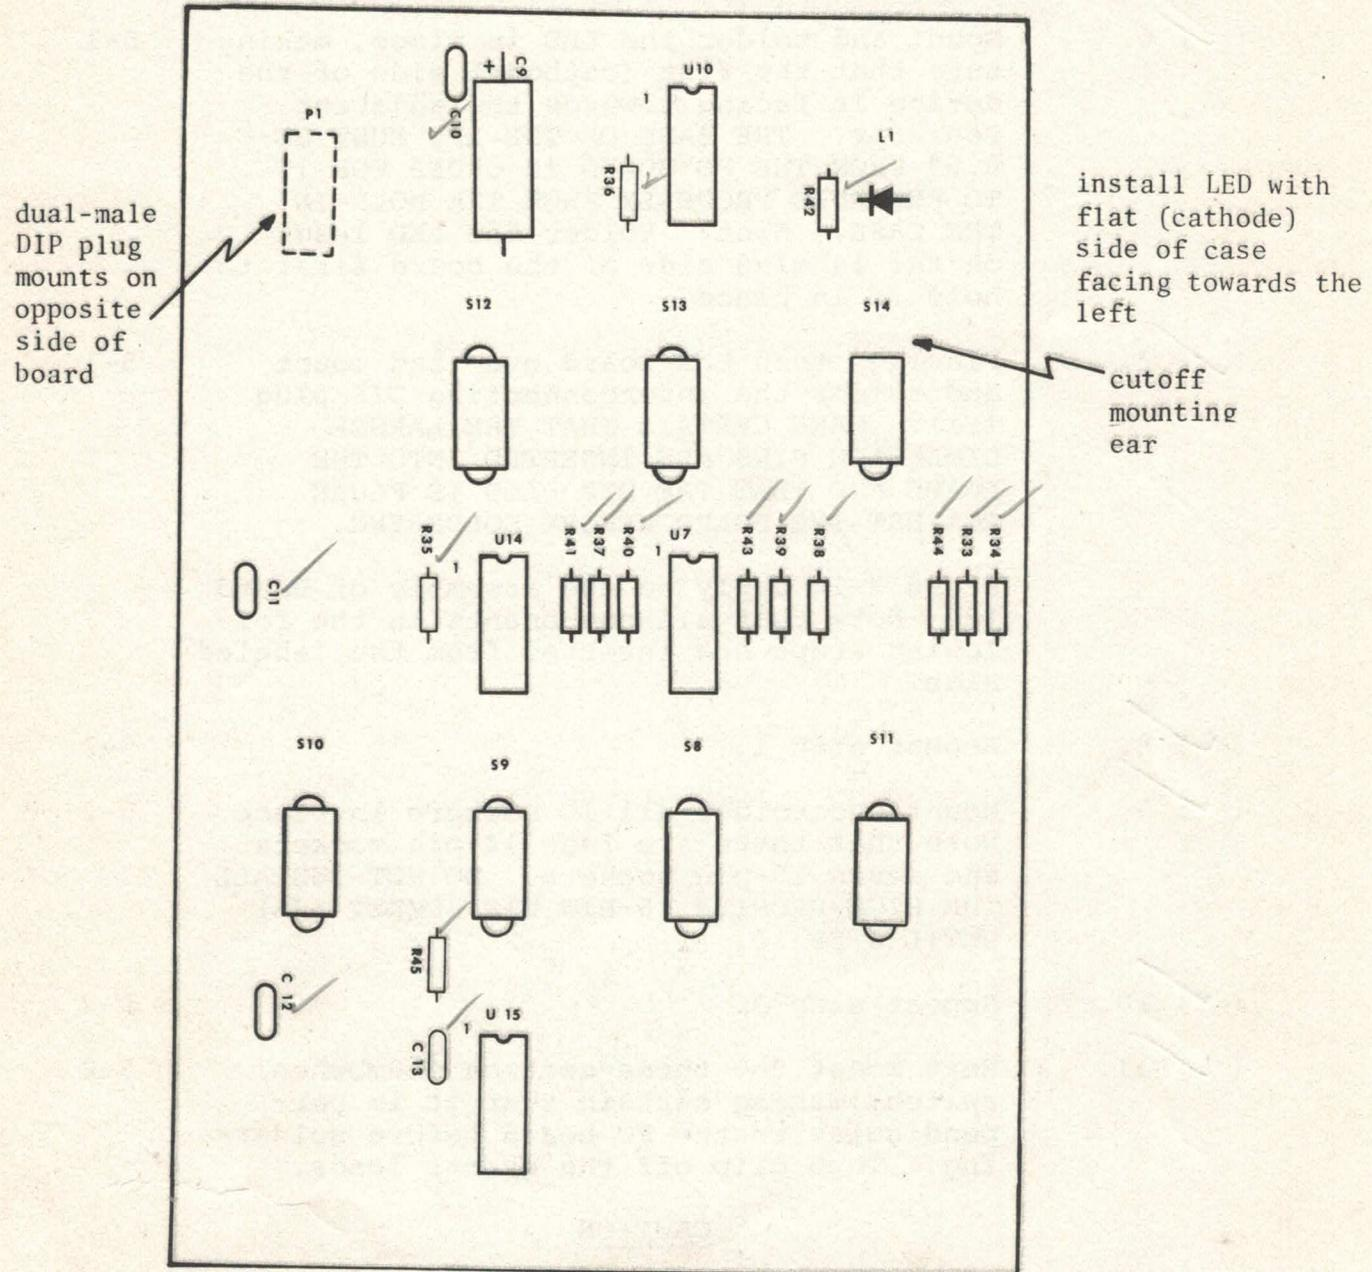

Fig. 5-1. Model 10 Board #1 component layout.
2. "Color in" components as you locate them in the assembly drawings of Figure 5-1 and 5-2.